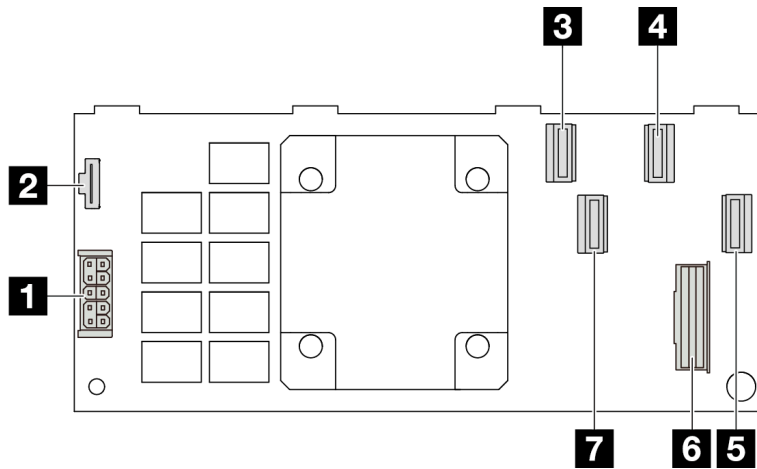

Figure 300. A Gen 4 16i CFF RAID adapter (four port connectors)
- Figure 300 “A Gen 4 16i CFF RAID adapter (four port connectors)” on page 291